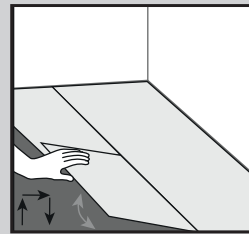
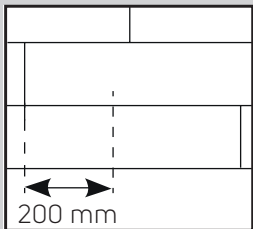
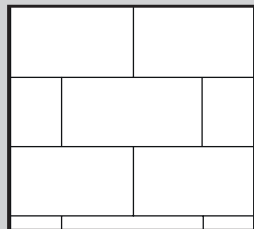

Fig. 3
Fig. 4a
Fig. 4b
Such that four corners never meet. Refer to installation Fig.4a / 4b.
- Start the second row by clicking the tongue into the groove holding the plank at an angle (approximately 30°), then tap the plank/tile firmly into the groove of the first row. Install the next plank/tile by easing the tongue and groove together on the long side (Fig. 3). Tiles and planks should be installed 'off-set' such that four corners never meet (Fig. 4a and Fig. 4b).